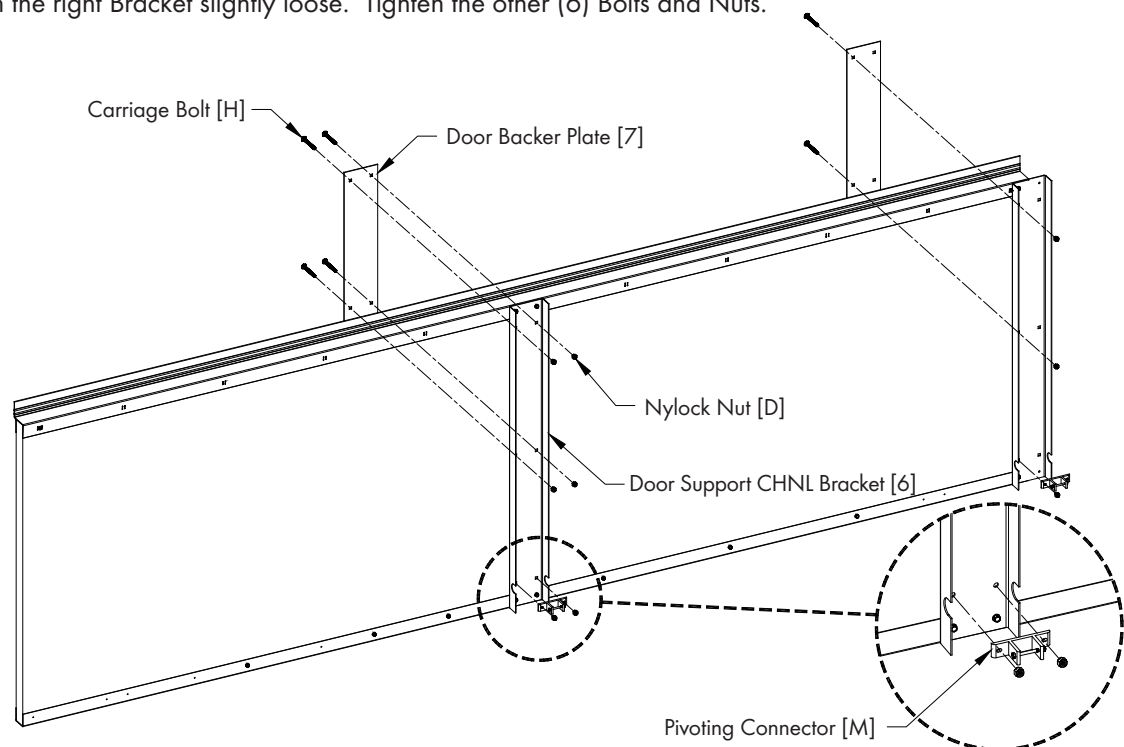

Figure 12
Locate Door Backer Plate [7] and fasten to back of Tunnel Door in line with Door Support CHNL Bracket [6] using (4) Carriage Bolts [H] and Nylock Nuts [D] in the upper (4) holes for the left and center Brackets. The right Bracket only gets (2) Bolts and Nuts. See Figure 12. Secure the Pivoting Connector [M] to the Bottom Pair of holes in Door Support CHNL Bracket using (2) Carriage Bolts [H] and Nylock Nuts [D]. The right Bracket only gets (1) Bolt and Nut to secure the Pivoting Connector [M]. See Figure 12. Leave the Bolts and Nuts in the right Bracket slightly loose. Tighten the other (6) Bolts and Nuts.